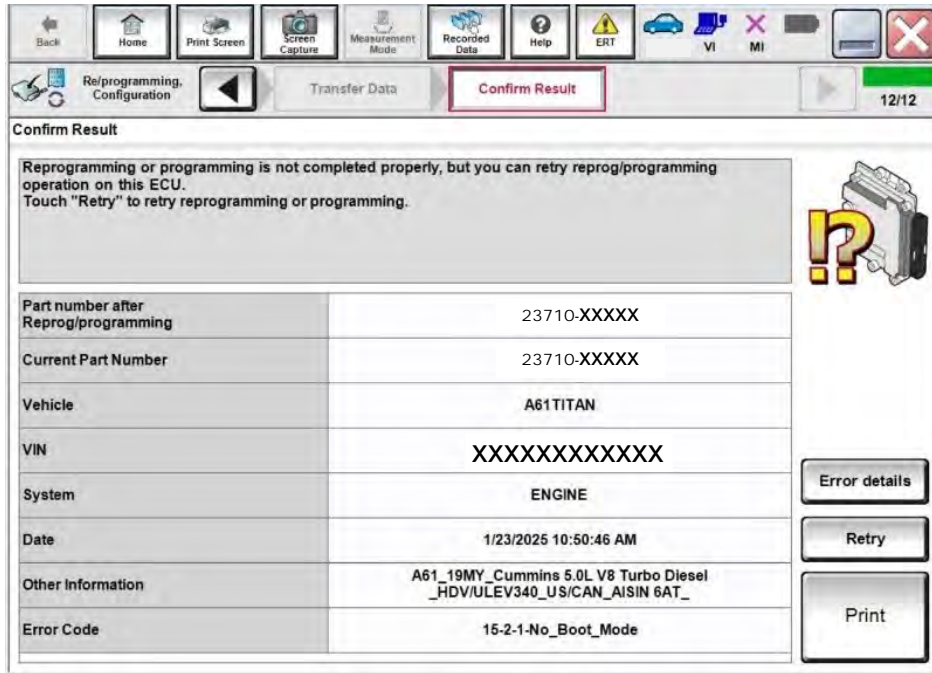

Figure 10
21. Did **Error Code** “15-2-1-No\_Boot\_Mode” shown in Figure 10 display, (indicating that reprogramming did not complete)?